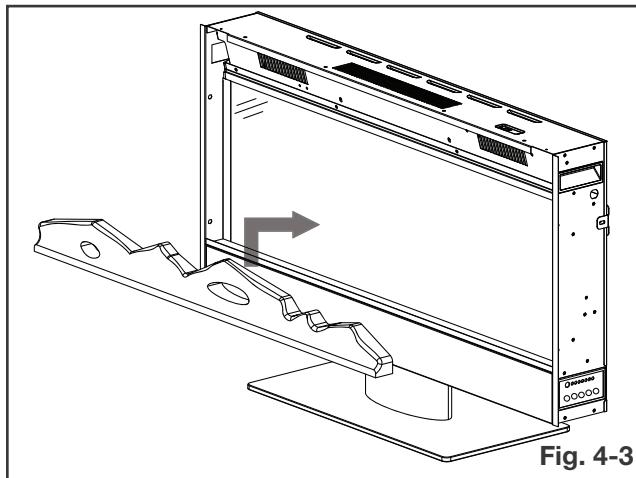

Fig. 4-3
- C. Place the log set into the appliance (**Fig. 4-3**).